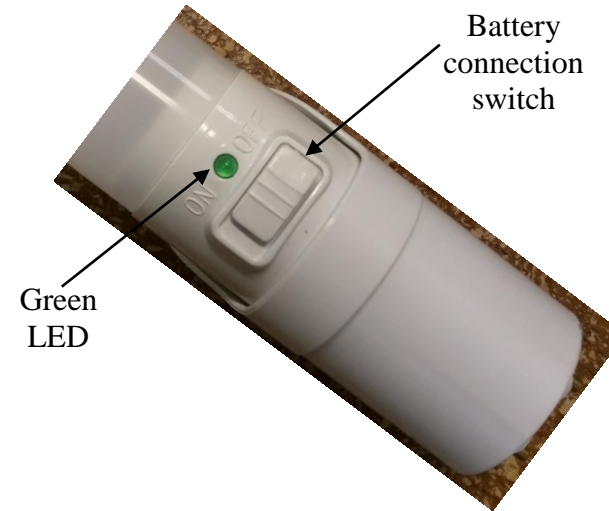

Fig. 2
7. IMPORTANT: Turn "on" a battery connection switch (see Fig. 2) on an Aleddra's EM G3 LED T8 lamp. The battery connection switch comes with a default "off" to prevent the built-in battery from being depleted and damaged.